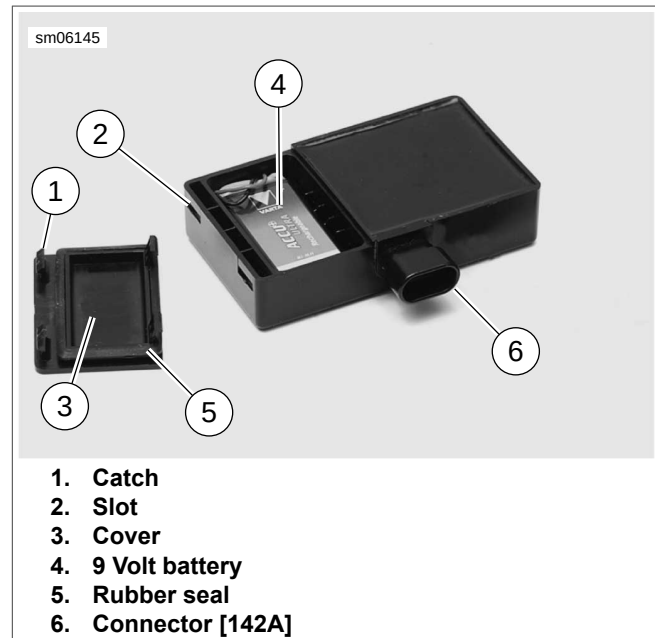

Figure 6-130. Siren Battery Compartment
2. See Figure 6-130. With a small screwdriver or pick, push the catches (1) in through the two slots (2) in the end of the siren to release the battery cover (3).